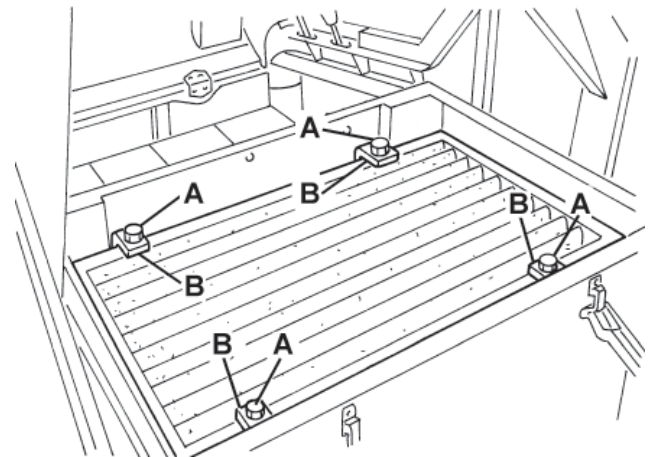

Figure 16
6. Unscrew the knobs (A, Fig. 16) and remove the brackets (B).